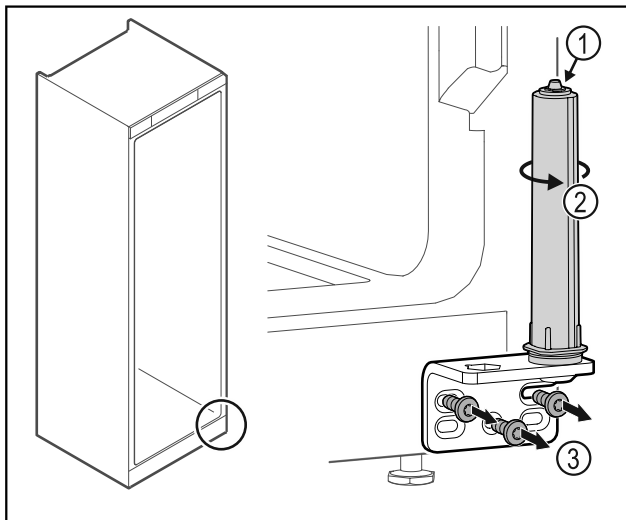

Fig. 33
- Do not disassemble the door closing system Fig. 33 (1).
- Turn the closing system Fig. 33 (2) until it clicks.
- Unscrew the hinge Fig. 33 (3).